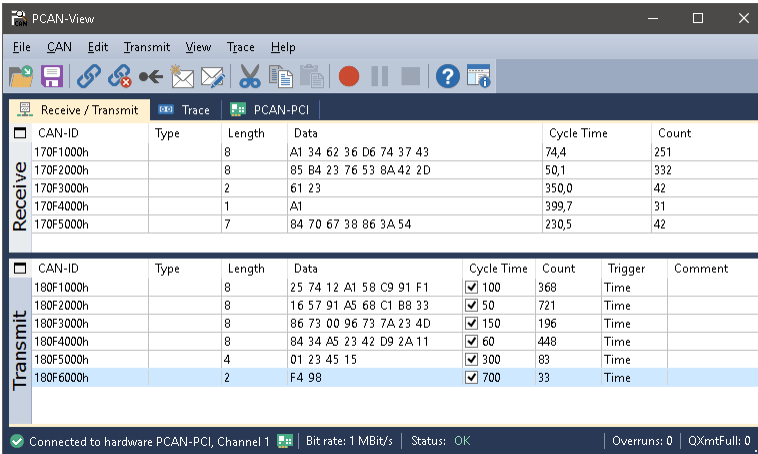

Figure 14: Receive/Transmit tab
10. Confirm the settings in the dialog box with **OK**. The main window of PCAN-View appears (see Figure 14).